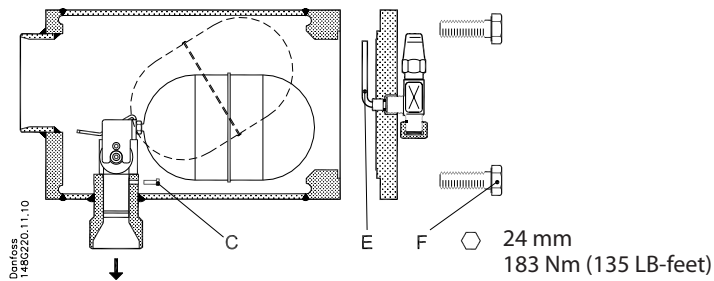

Fig. 3
Remove welding debris and any dirt from pipes and valve body before assembly. Replace float assembly in the outlet branch and tighten the screw pos. C (fig 3). Check that the float assembly has gone all the way down the outlet connection and that the float ball is positioned in the middle of the housing, so it can move without any restriction.
**NB!** The ventilating pipe pos. E (fig 3) has to be placed vertically up-wards.
Use a torque wrench to tighten the screws pos. F (fig. 3). Tighten with torque of 183 Nm (135 Lb-feet).